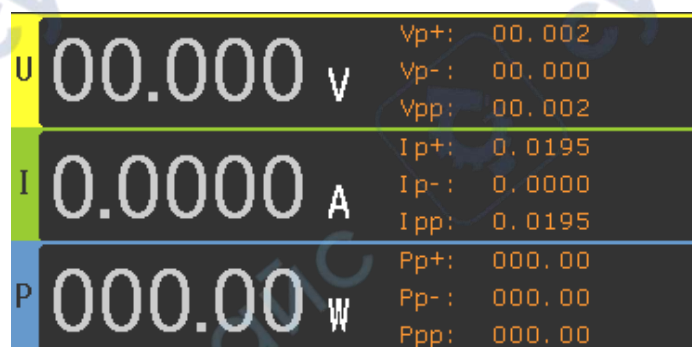

Figure 4-1
**U,I,P Ppon: as shown in Figure 4-1, display voltage, current, power, peak value, ripple value